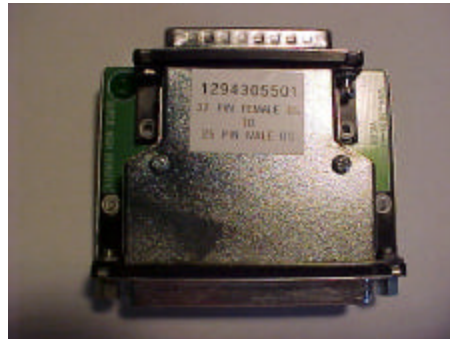

Figure 1
- 1 – Adapter-Connector, 37P-F to 25P-M, Vicon part 1294-3055-01 (see figure 1)
2. The adapter-connector shown in figure 1 is the same part that is included as an accessory with the *Matrix66 Super High Density Video Switching System* (V1466). The ribbon cable, part 1251-3455-02, is the same part that is included with the V1300X-IA *Alarm Interface* module. Alternatively, cable part number 1806-5374-01-00 included with the V1400X-MSSV *Multi System Selector*, could also be used as well as any 37 conductor cable wired straight through (pin 1 to pin 1, pin 2 to pin 2, etc.).